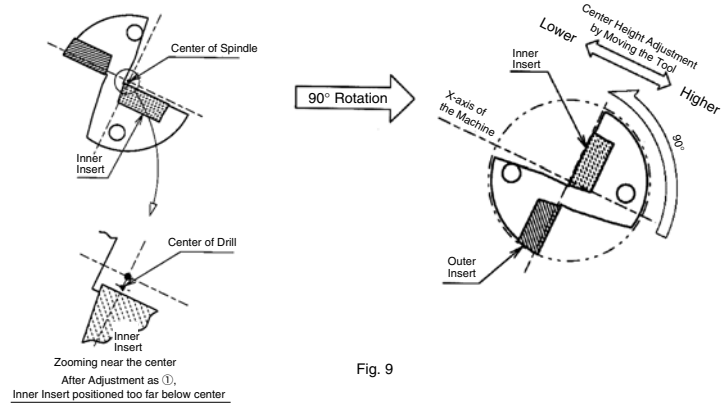

Fig. 9
① Install the drill at the 180° reverse position. Problems would be mostly solved by this method.
② In case that the core diameter becomes too big after the above adjustment, install the drill rotating 90° counter-clockwise as shown in Fig.9 (outer insert is positioned lower) and adjust the center height by moving the tool in the X-axis direction.